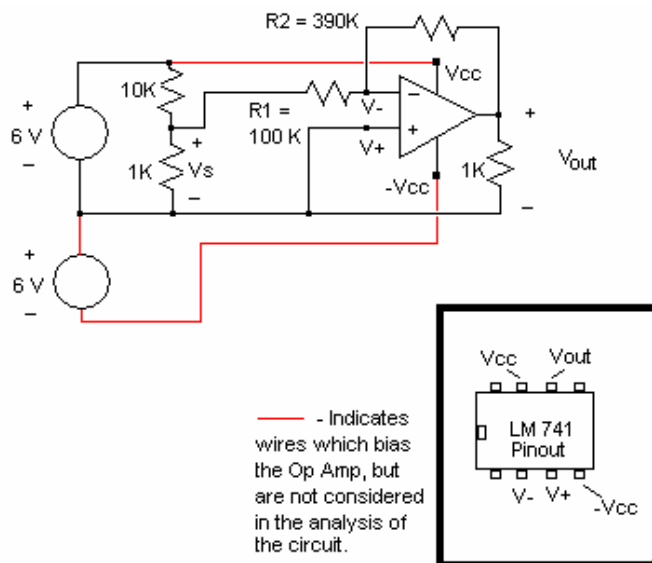

Figure 5: Inverting Amplifier
Connect the Op Amp circuit shown in Figure 5.
Model the Inverting Amplifier of Figure 5 in PSpice[®] for both the original diagram and for the diagram with R_1 and R_2 swapped. Use the "OPAMP" model from the parts list to represent the LM741. This model does not have external connections for V_+ and V_- , so there is no need to model two voltage sources. Use a single 6 Volt source and make sure to set the attributes for VPOS and VNEG to +6V and -6V respectively in the OPAMP model. Include the two schematics (one for each combination of resistor values with the V_s and V_{Out} voltages displayed as an appendix to your report and compare their results to the experimental values.
1. Calculate the theoretical value of V_{Out} in Figure 5 for both the original diagram and the diagram with R_1 and R_2 swapped and record your values in Table 6. Compare your experimental results for V_{Out} (Table 5) with the theoretical values you just calculated and the results of your PSpice[®] simulation. Explain any differences. Incorporating what was learned about the accuracy of resistors in Lab 1 may be helpful.
Table 5: Measurements for Figure 5
Table 6: Theoretical Values for Figure 5